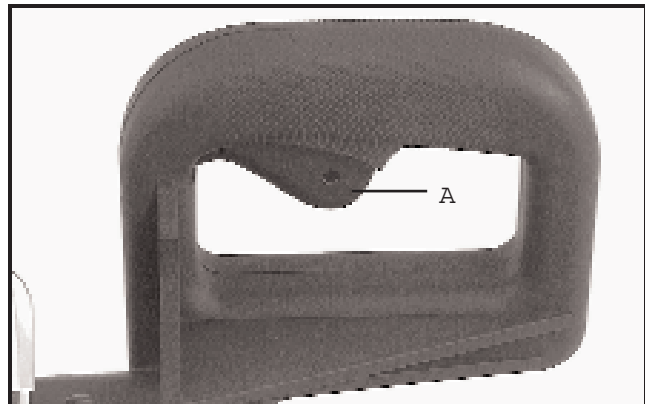

Fig. 15
To start the machine, depress switch trigger (A) Fig. 15. To stop the machine, release the switch trigger.
This saw is equipped with an automatic electric blade brake. As soon as the switch trigger (A) Fig. 15, is released, the electric brake is activated and stops the blade in seconds.
DANGER: A TURNING SAW BLADE CAN BE DANGEROUS. AFTER COMPLETING CUT, RELEASE SWITCH TRIGGER (A) FIG. 15, TO ACTIVATE BLADE BRAKE. KEEP CUTTING-HEAD DOWN UNTIL BLADE HAS COME TO A COMPLETE STOP.